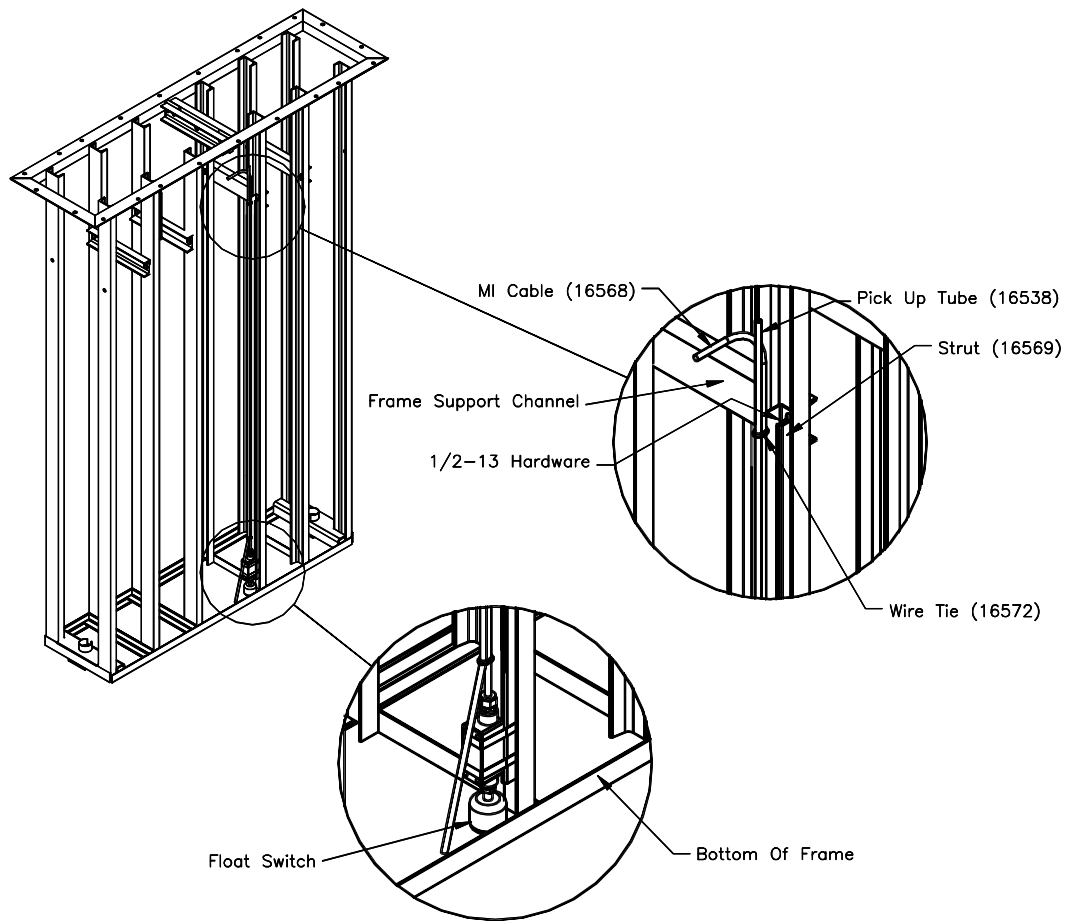

Figure 2
- 6) Hang the assembly from Step 4 on the inside of the channel and attach with the hardware removed in Step 5. Take care to insure that the Float/Hanger assembly is relatively plumb and within the vertical channel so that it may not be damaged by the moving components of the lift. The float stem should be resting on the bottom of the frame without obstructing the movement of the float. See Figure 2.